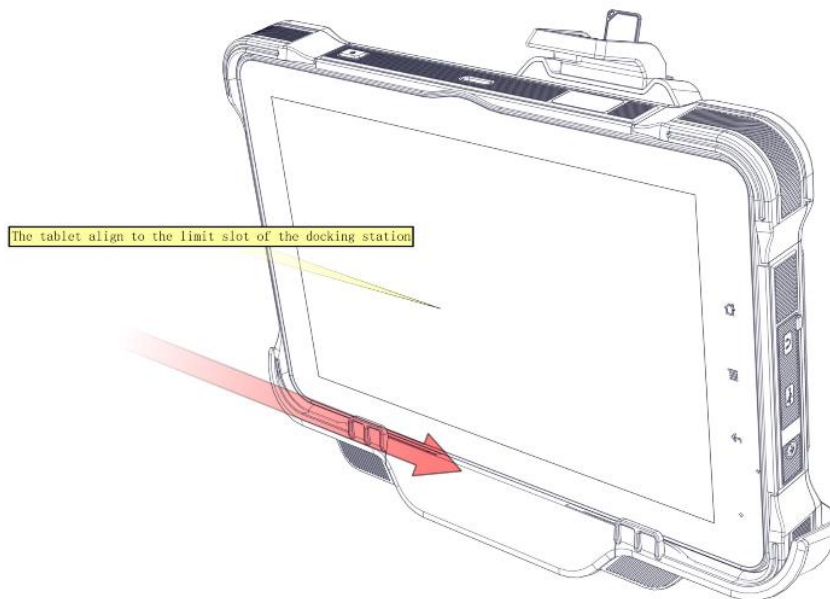

Fig. 4-2
2. Align the 10 Pro to the limit slot of docking station as Fig 4-2 shown.